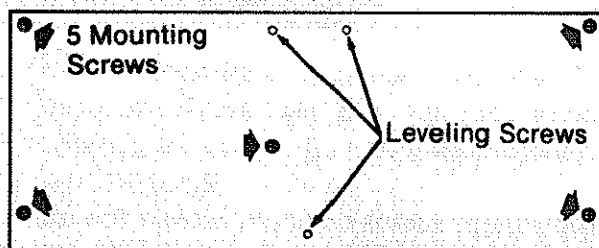

Fig. 98
- Tighten the *mounting screws* which pull down on the table making a given point lower. (Figure 98)
- Tighten the *leveling screws* which push up on the table making a given point higher. (Figure 98)